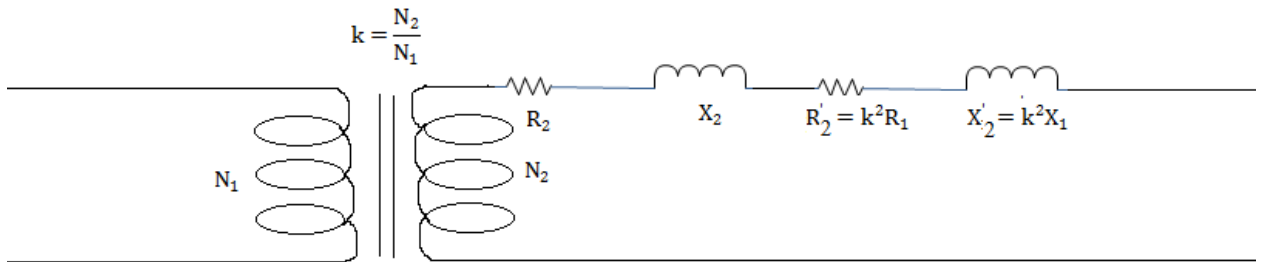

Fig. 8.11
4.12.2 **Equivalent circuit referred to secondary:** In this case parameter of the primary side is shifted to the secondary side as shown in fig.8.11. We know when the parameter of the primary is shifted to secondary they will be multiply by k^2 .